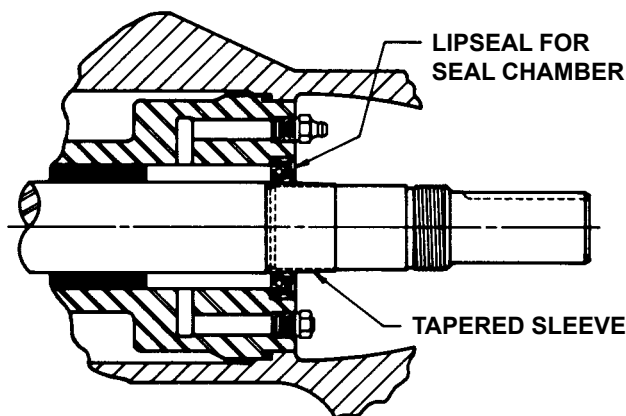

FIGURE 9
2. Be sure shaft is free from burrs and foreign particles that might damage the casing bushing. Install the rotor and shaft. Place the end of the shaft in the casing bushing and turn from right to left slowly, pushing until the ends of the rotor teeth are just below the face of the casing. Refill the casing lubrication chamber with multipurpose grease and place the tapered sleeve in the lipseal for seal chamber as shown in Figure 9. Remove the tapered sleeve from the shaft (Series 4724).